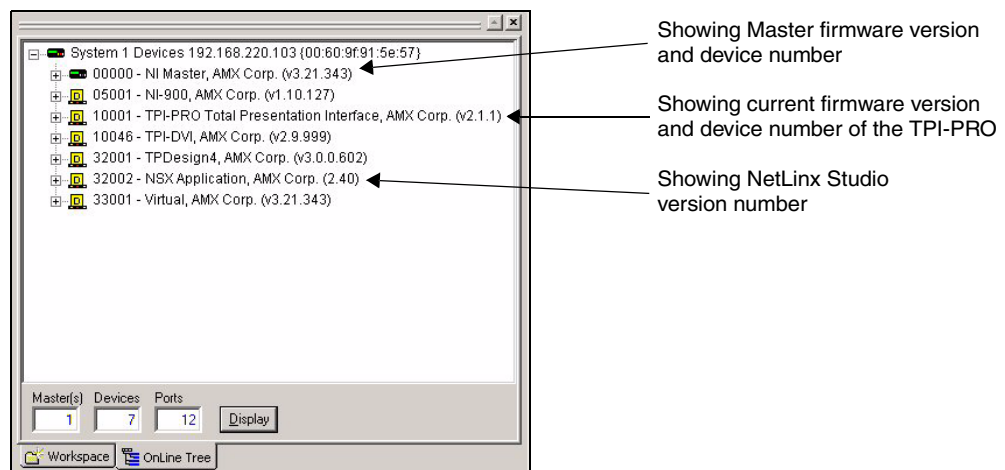

FIG. 32 NetLinx Workspace window (showing connected TPI-PRO)
3. After the Communication Verification dialog box verifies active communication between the PC and the Master, verify the panel appears in the OnLine Tree tab of the Workspace window (FIG. 32). The default TPI-PRO panel value is 10001.